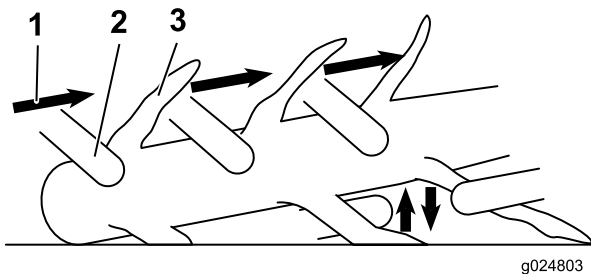

Figure 15
2. First cut the smaller branches, leaving larger, supporting branches for last (Figure 15).
3. If a branch is under tension, cut it from the underside to prevent binding of the chain saw (Figure 15).